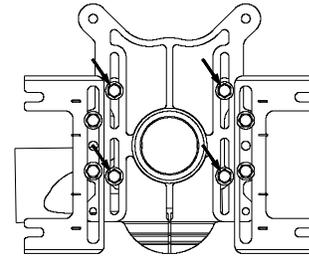

Fig. 3
3. Remove the faceplate/feet from trim kit box and align the faceplate slots with the gasket and fitting holes. Using four 1/2" bolts from the Fitting & Faceplate hardware bag, secure the bolts with a ratcheting wrench (25-35 lb-ft of torque). See Fig. 3